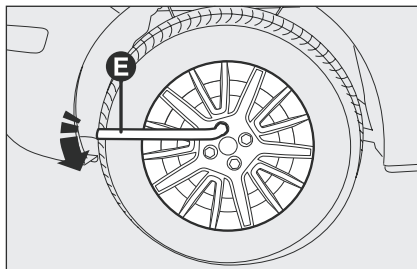

fig. 3
- loosen the bolts of the wheel to be replaced by about one turn with the wrench provided **E-fig. 3**; if the car is fitted with alloy rims, shake the car to facilitate removing the rim from the wheel hub;